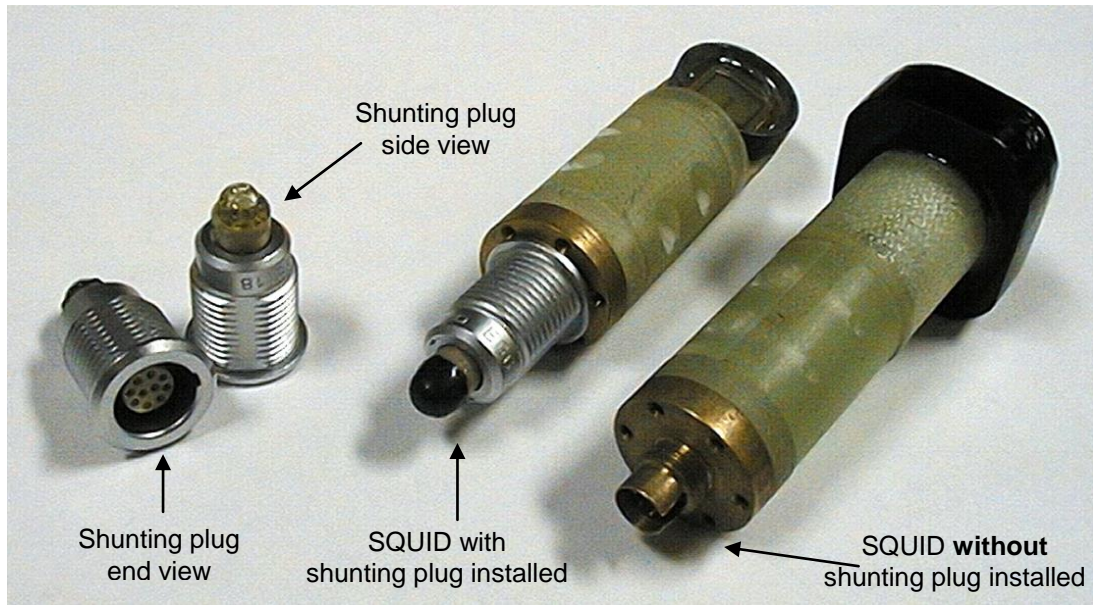

Figure 11 Shunting Plugs
- Connect the shunting plug at the top connector when the SQUID is not in use for extended periods and always for shipment. See Figure 11.